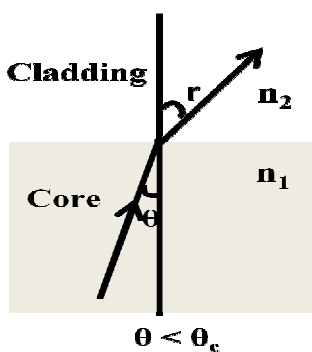

Fig.1
- i. When $\theta < \theta_c$, then the ray refracted into the second medium as shown in above fig.1.